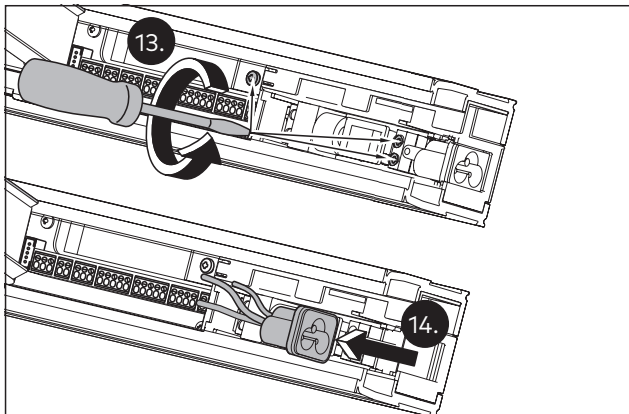

Fig. 20 Pull out the connection socket
- 13.** Loosen the screws on the terminals (Fig. 20).
- 14.** Pull out the internal connection socket (Fig. 20).